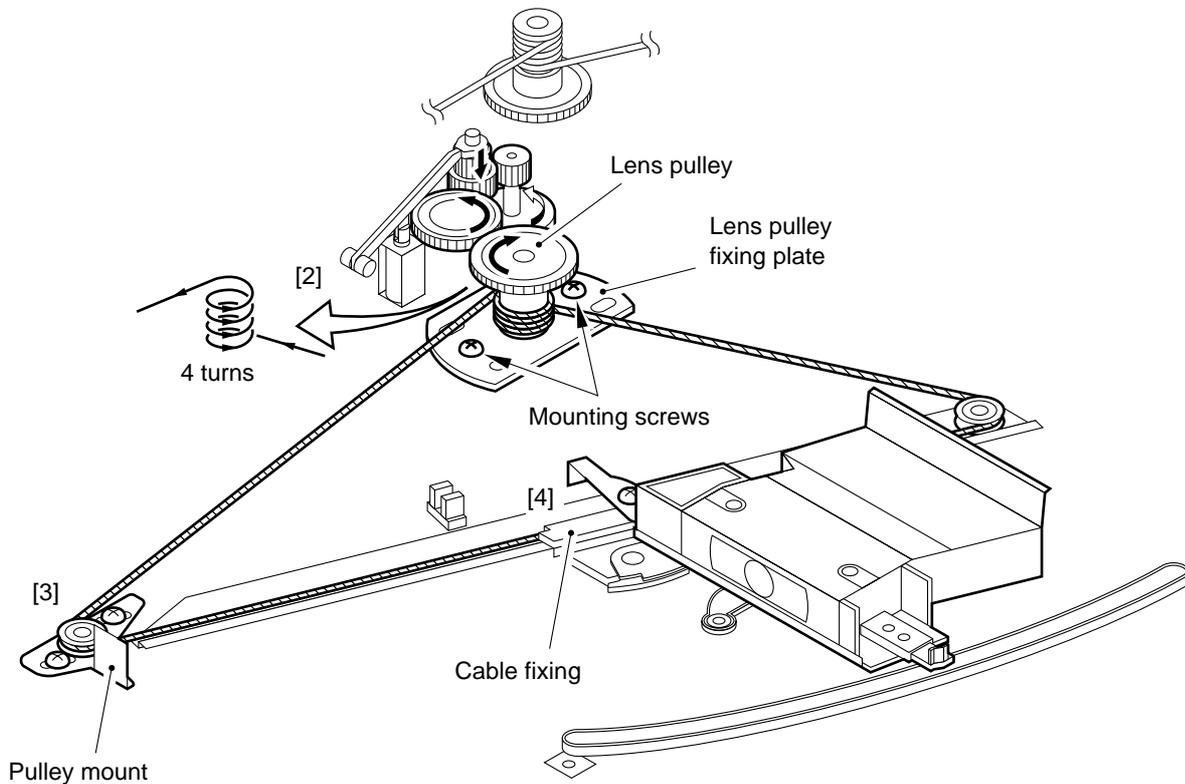

Figure 2-8
- 2) Wind the lens cable around the lens pulley as shown in Figure 2-8, and secure it with the two fixing screws.